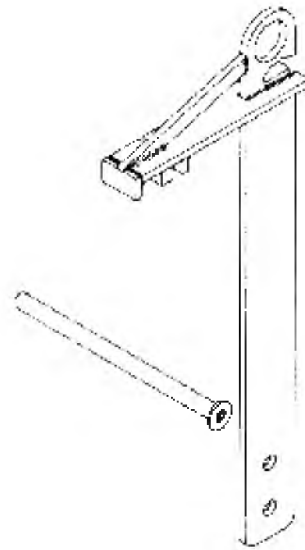

Fig. 10-3 - Aftercooler Lifting Tool
4. When the aftercooler is sufficiently free, apply an aftercooler lifting tool, Fig. 10-3, and using a suitable hoist, remove the entire assembly from the air duct.